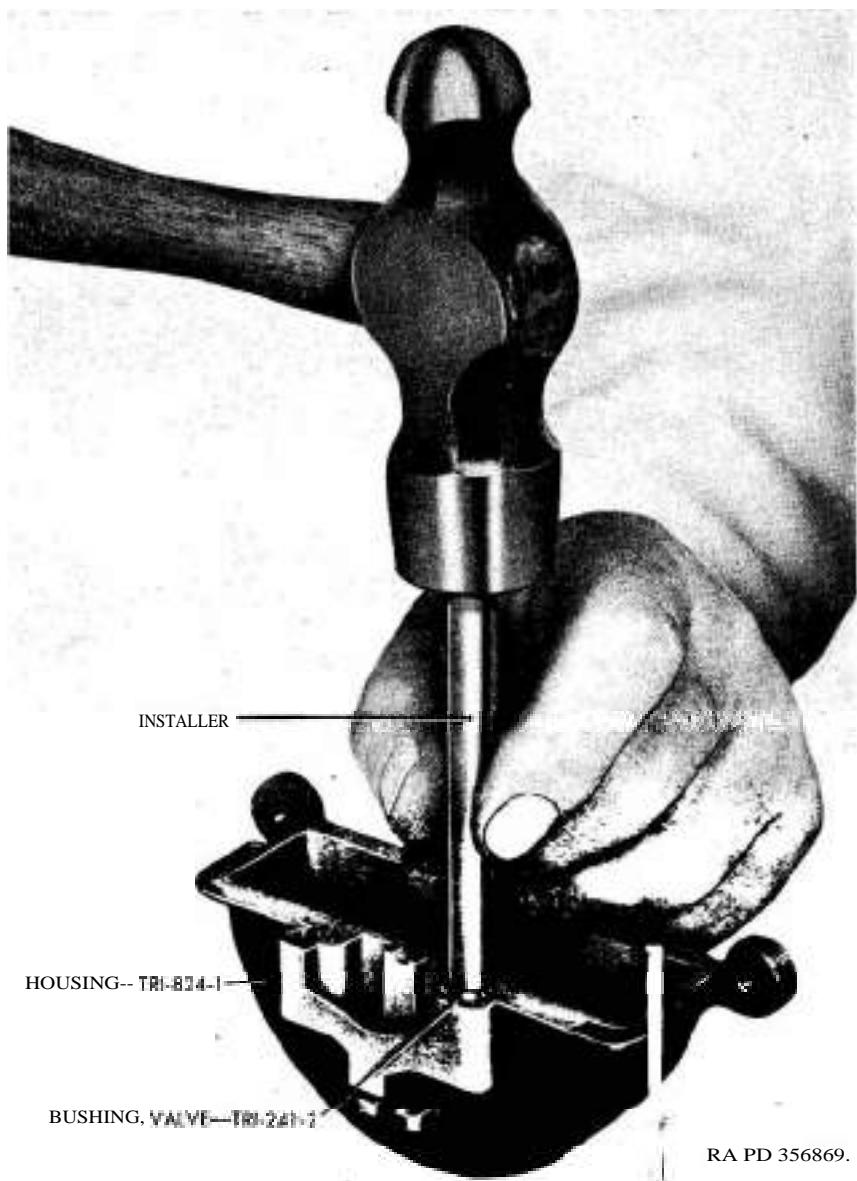

Figure 196. Installing valve bushings with installer
d. *Install Valve Bushings in Housing.* Position valve bushings (U and JJ) in top of housing (GG) and carefully set bushings in housing with installer (fig. 196) from kit 41—K-280.